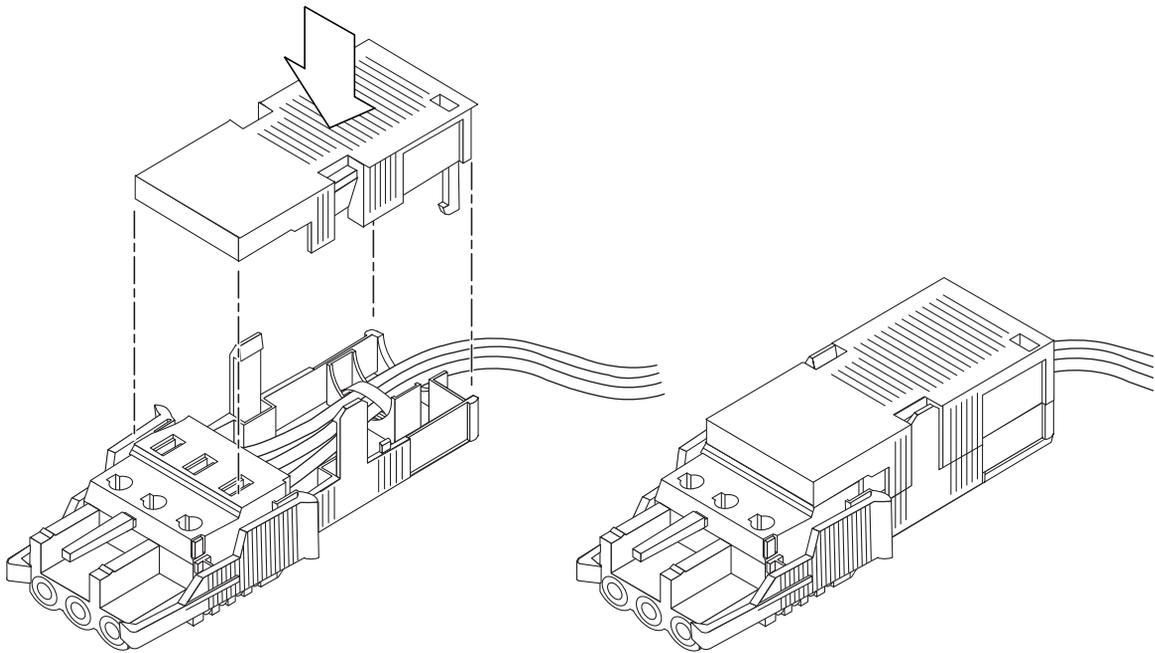

FIGURE 3-9 Assembling the Strain Relief Housing
5. Lower the top portion of the strain relief housing so that the three prongs on the top portion fit into the openings in the DC connector, and push the top and bottom portions of the strain relief housing together until they snap into place (see FIGURE 3-9).